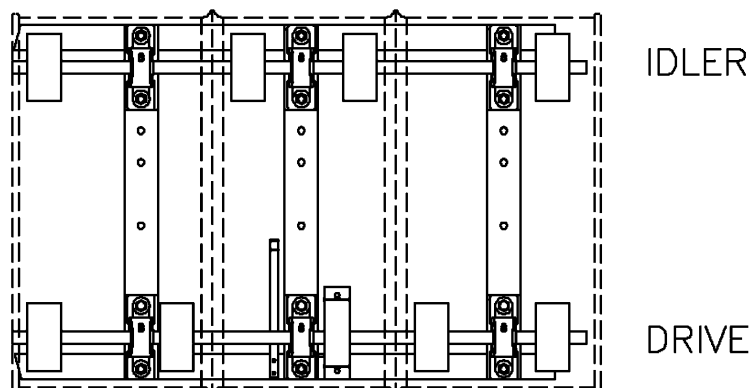

Figure 1
2. Next, adjust drive and idler wheels to your particular drum. With provided 1/8" allen wrench, loosen the two set screws found in each wheel hub. Wheels should be positioned to support the drum at its strongest point; adjacent to ribs and near the ends (see Figure 1). Put the two inner wheels next to drum ribs to hold drum from moving axially. If the drum rubs the nose piece, readjust the wheels. Tighten wheel set screws.